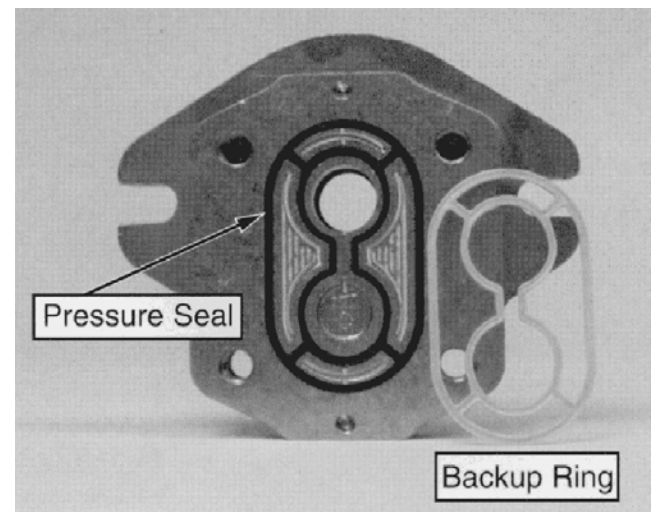

Figure 95
8. Carefully remove and discard o-rings, pressure seals, and back-up rings (Fig. 95) from motor. Do not cause any damage to the machined grooves during the removal process.